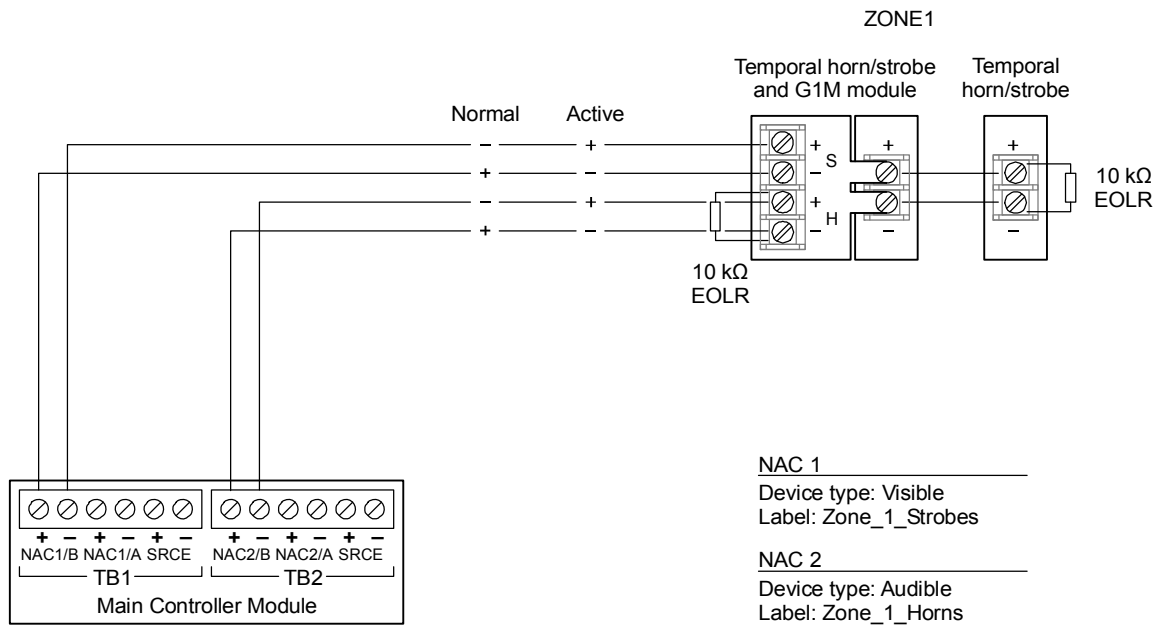

Figure 27: Typical MIR2-MCM(N) NAC wiring
NACs on the MIR2-MCM(N)	<p>Visible signals are synchronized for an NAC when you use a Genesis Signal Master synchronization module and Genesis or Enhanced Integrity notification appliances. Visible signals on separate NACs on the MIR2-MCM(N) are not synchronized. Audible synchronization is supported between NACs 1 and 2 on the MIR2-MCM(N).</p> <p>To silence audible appliances separately, use one NAC channel to provide audible and another NAC channel to provide visible power to the NAC. In this configuration, the signal silence function operates as defined in your project. See Figure 27 for typical wiring.</p> <p>Configure the audible notification appliances for temporal or steady output as desired. Visible devices must be configured as steady only.</p>
Figure 27 shows a typical application of the MIR2-MCM(N) module to support a notification zone with audible and visible appliances. In this example, power could be supplied by a MIR-PPS(/6A).
In Figure 27, the zone is configured with separate NAC circuits for audible and visible appliances. NAC 1 is programmed as a visible device type, and NAC 2 as an audible device type. This means that the signal silence function can be configured to silence only the horns.
As in Figure 27, this configuration allows the audible appliances to be silenced independently of the visible appliances. This operation is optional, and may or may not be required for your project.